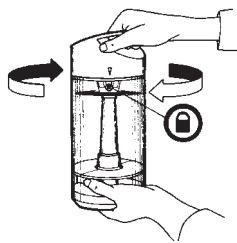

Figure 16b
3. Rotate the Collection Bin Handle clockwise so that you line up the arrow on the Dust Cover with the LOCK icon on the Collection Bin. (See Figure 16b.)